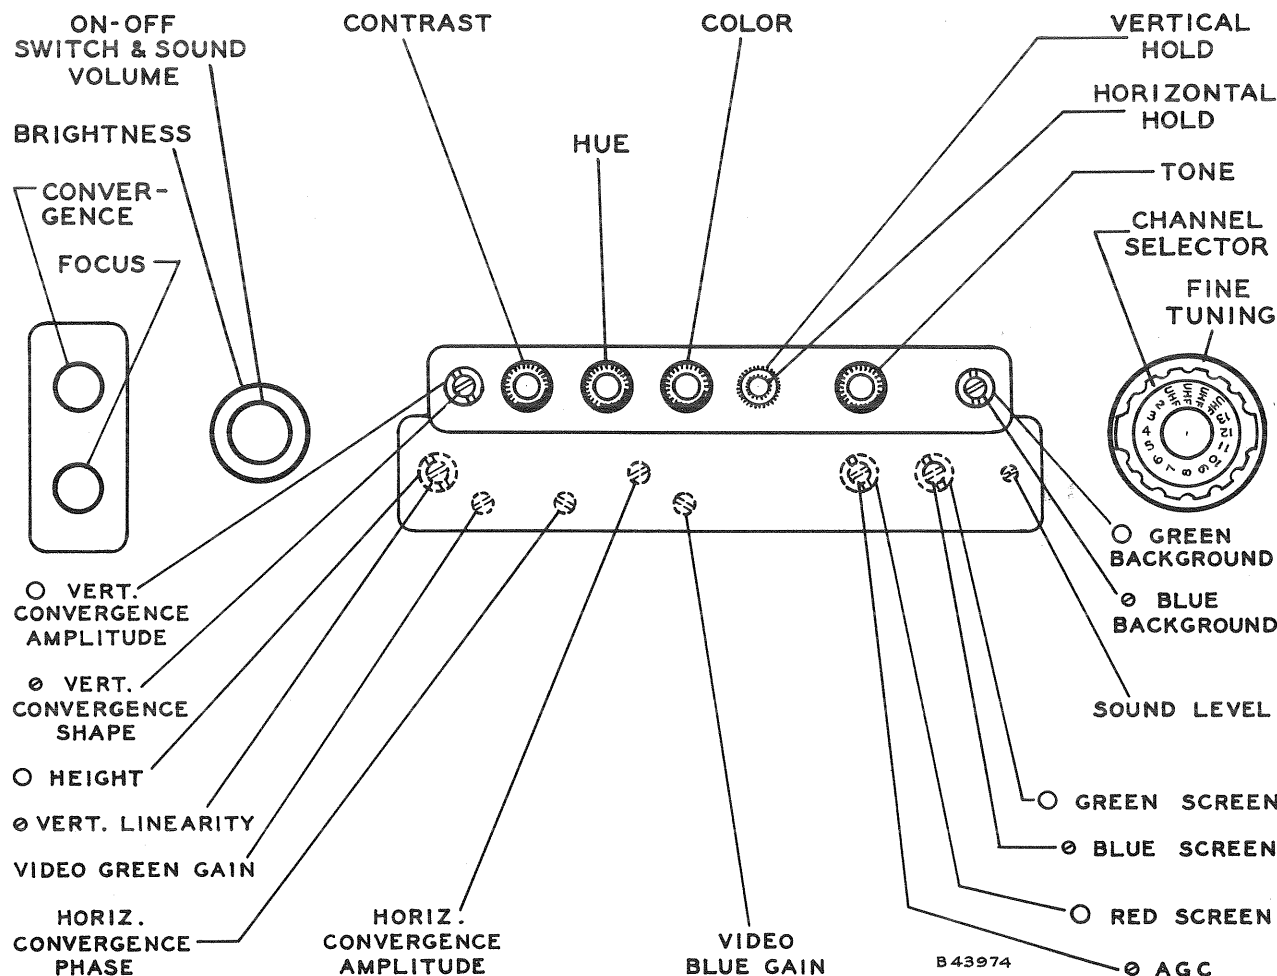
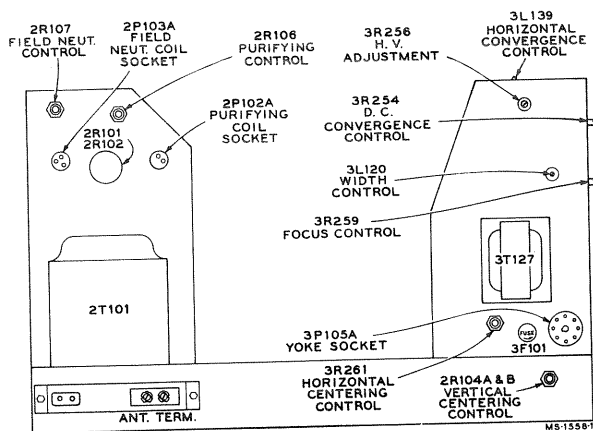

Figure 7—Operating Controls and Front Adjustments
Figure 13—Rear Chassis Adjustments
Place the socket on the kinescope base and connect the ultor anode lead. Insert the purity coil plug in its socket at the rear of the low-voltage compartment. (Refer to figure 13.)
**COLOR PURITY ADJUSTMENTS.**—Turn the Contrast Control 2R204/2R210 to minimum (fully counter-clockwise). Refer to figures 7, 12, 13 and 44 for the location of adjustments. Turn the Brightness Control 1R124A to an average brightness position. Any color impurity will best be seen on a red display (blue and green screens, turned down). Therefore, set the Red Screen Control 1R139A to its maximum position. Set the Blue Screen Control 1R155B and the Green Screen Control 1R155A to their minimum positions (fully counter-clockwise). Remove the plug of the field neutralizing coil, 2P102M, or set the control, 2R107, to the center of its range. (See figure 13.)
Turn the AGC control counter-clockwise until the receiver operates normally and the picture can be synchronized. (Refer to figure 7 for adjustment location.)
Centering is accomplished by adjustment of the two electrical centering controls located on the rear of the chassis as shown in figure 13.
Adjust the Width Control 3L120 on the rear of the HV compartment, as shown in figure 13, to overscan the masking area by approximately one-quarter inch at each side.
**HEIGHT AND VERTICAL LINEARITY ADJUSTMENTS.**—Adjust the height control 1R282A and the Vertical Linearity Control 1R282B (controls under cabinet front panel—see figure 7), until the picture or test pattern is symmetrical from top to bottom. Make the final adjustment to overscan the mask by one-quarter inch at both top and bottom. Recheck the horizontal and vertical centering for correct positioning of the picture with respect to the mask.